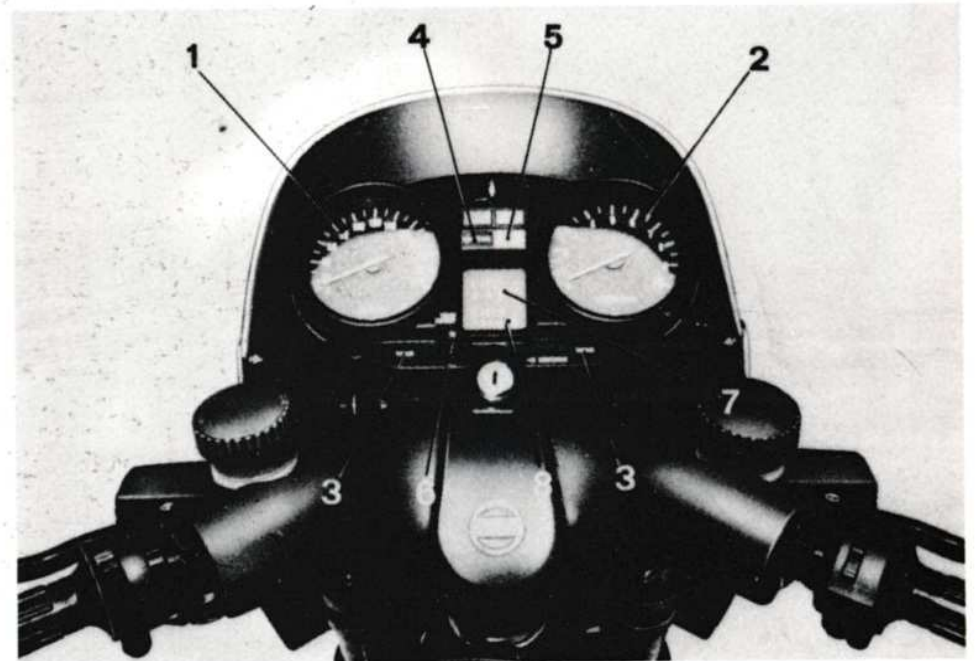

Fig. 2
**Location of Instruments and Indicators. Fig. 2